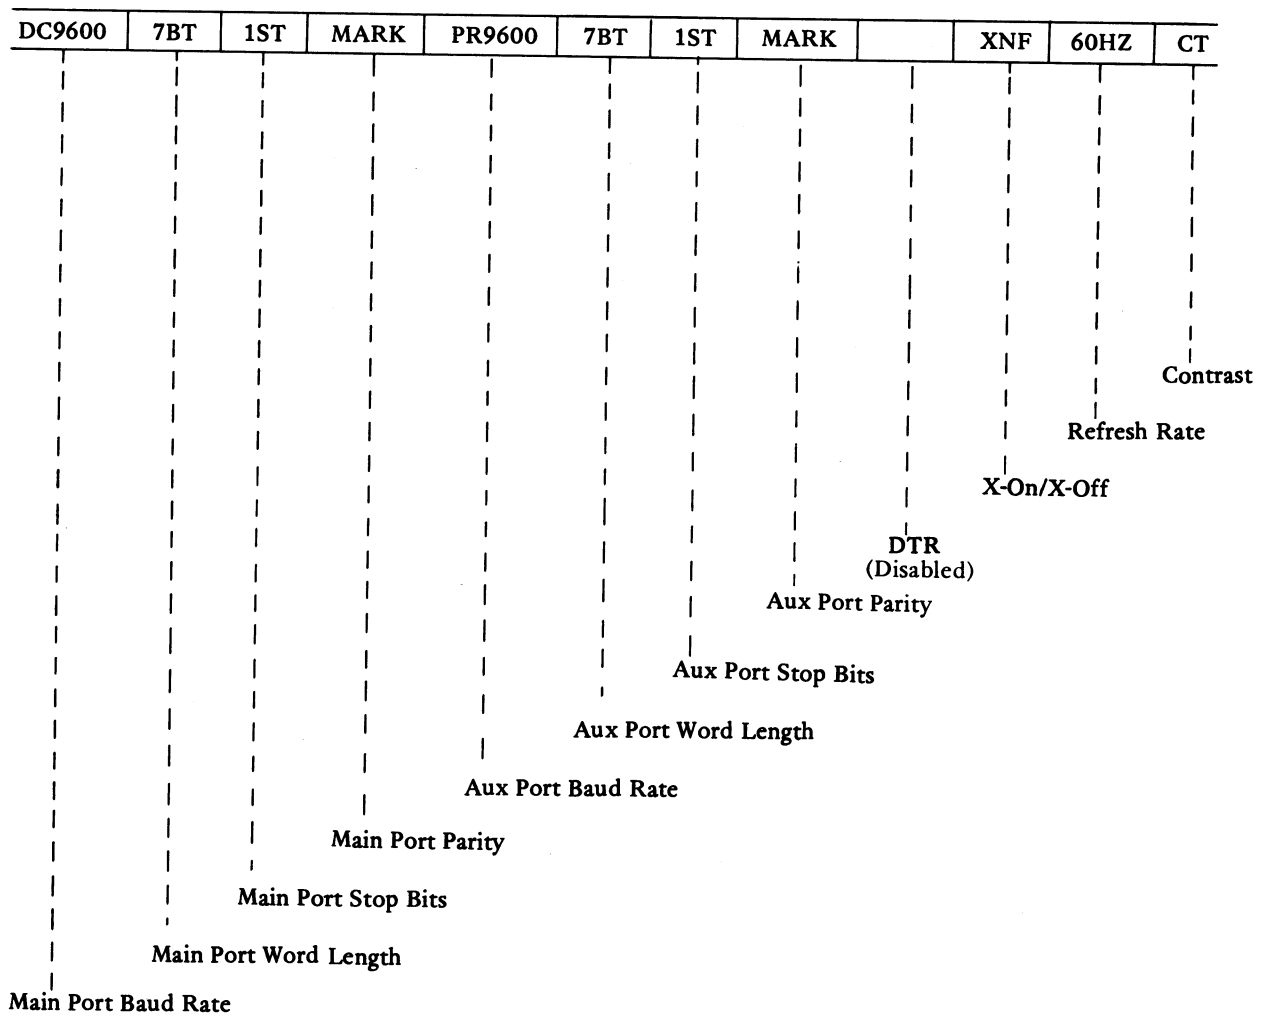

Figure 4-1: Set-Up Line A
3. The previously displayed Status Line will be replaced by Set-Up Line A (see Figure 4-1). This line will display the current communication parameter values stored in the terminal's memory, and the screen refresh rate. The Contrast Control field is also located in this line.
Figure 4-1 and 4-2 show each parameter field and the factory default values of each field. To change any of these values, follow the instructions provided in the previous subsection. For a description of each field, refer to Table 4-4.